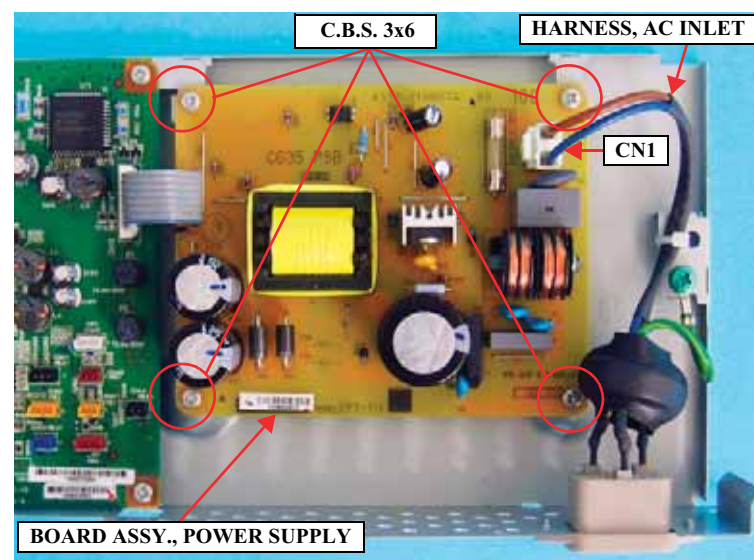

Figure 4-34. Removing the BOARD ASSY., POWER SUPPLY
3. Disconnect the HARNESS, AC INLET from CN1 on the BOARD ASSY., POWER SUPPLY. *See Figure 4-34.*